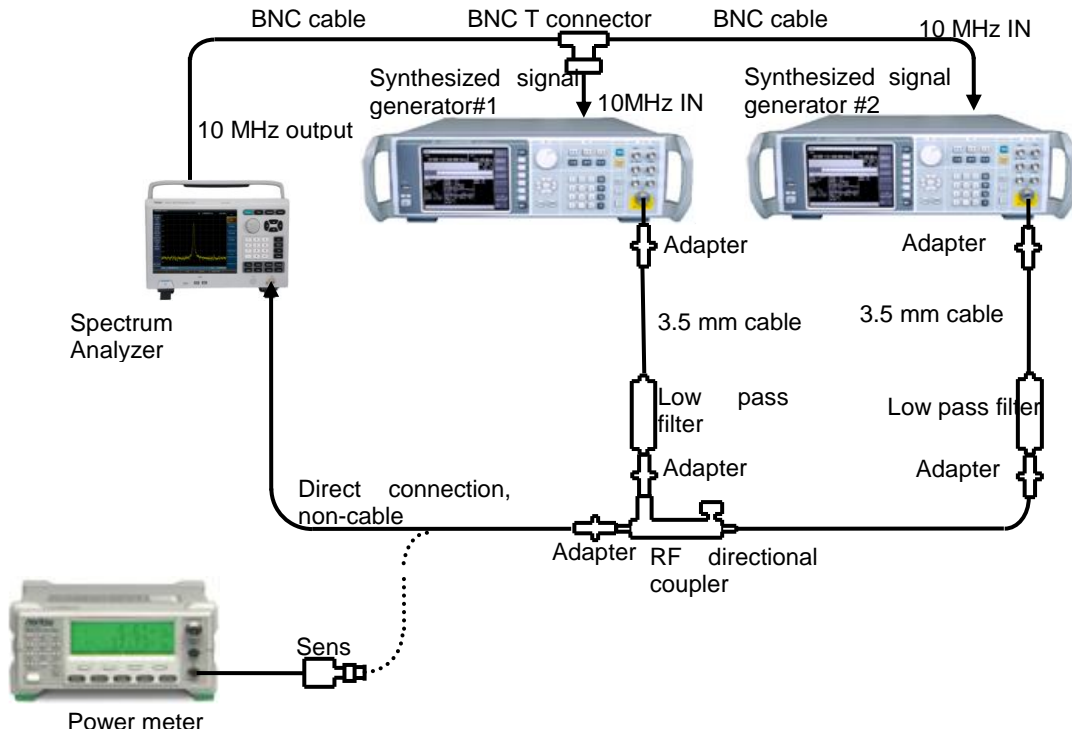

Fig 11-10 Third-Order Intermodulation Distortion Testing Setup (50 MHz~4 GHz)
- 1) Connect the instrument as shown in Fig 11-10. As shown in the Fig, use the RF directional coupler, and select the appropriate low pass filter and adapter according to the test frequency. Do not connect the directional coupler to the spectrum analyzer.